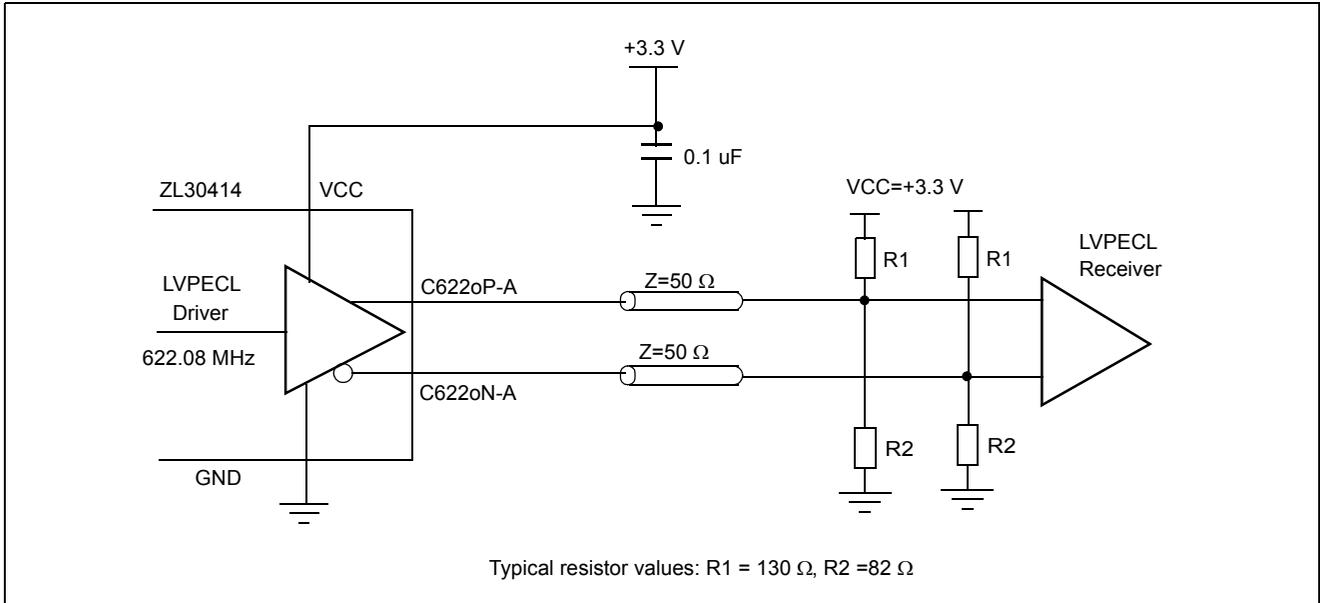

Figure 8 - LVPECL to LVPECL Interface
- Note 2: LVPECL outputs terminated with $Z_T = 50\ \Omega$ resistors biased to $V_{CC}-2V$ (see Figure 8)